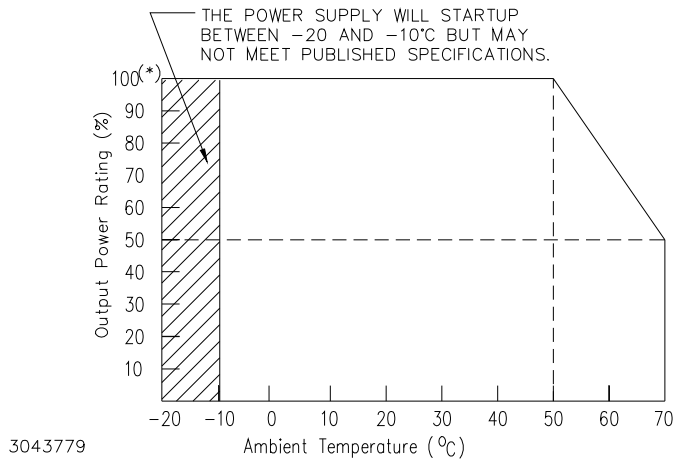

FIGURE 2. POWER RATING VS. TEMPERATURE
- (1) To adjust output voltage down to approximately 0V requires that DIP SW1, position 7 be set to ON. Refer to Table 5 for minimum conditions required to maintain proper operation of alarm relay, meter (AM Models only) and VDC ON/ALARM indicator.
- (2) Using trimpot to attain voltages outside the specified adjustment range may trigger overvoltage (PAR 3.6.1) faults. Recovery is by removing, and after approximately 40 seconds, reapplying AC input power or by reset (open and close) at ±RC terminals (no delay).
- (3) See Figure 2 for power derating.
- (4) CAUTION: The unit may be damaged if operated under overcurrent or shorted conditions for more than 30 seconds. If current exceeds limit (105% of nominal), output voltage starts to drop. If overload condition continues, current up to 130% of nominal may be experienced.
- (5) Constant current limit with automatic recovery, except 5V model: constant current limit with hiccup and automatic recovery (see PAR. 3.6.2).
- (6) When overvoltage is detected, output is shut OFF. Recovery is by removing, and after approximately 40 seconds, reapplying AC input power or by reset (open and close) at ±RC terminals (no delay).
- (7) Measure with JEITA RC-9131A probe, bandwidth of scope: 100MHz.